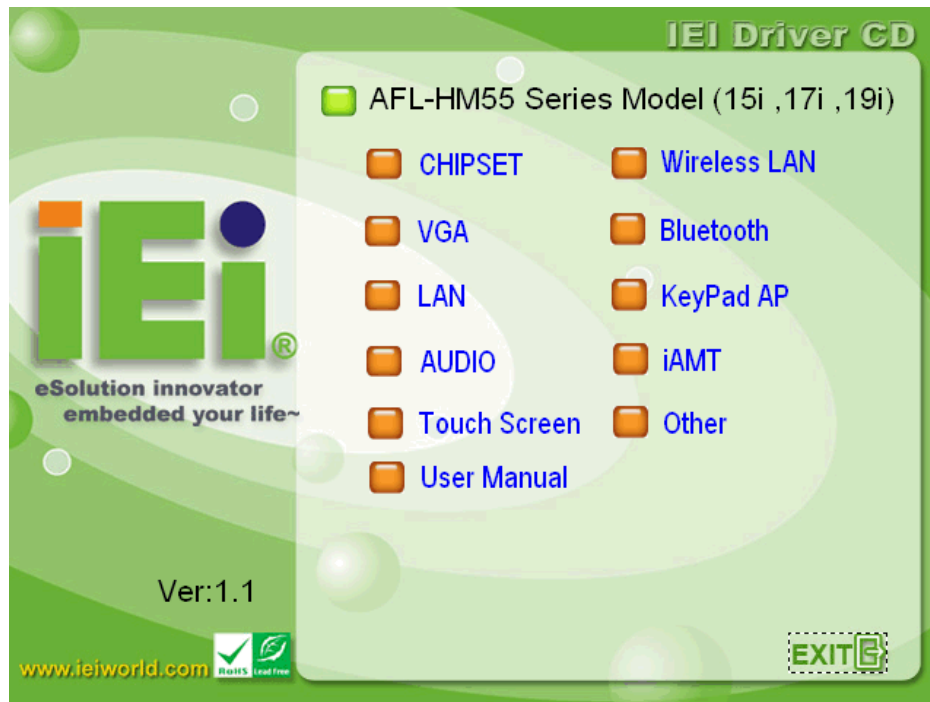

Figure 6-1: Drivers
Step 4: The list of drivers in **Figure 6-1** appears.
- Step 1:** Access the driver list shown in **Figure 6-1**. (See **Section 6.2**)
Step 1: Access the driver list shown in **Figure 6-1**. (See **Section 6.2**)